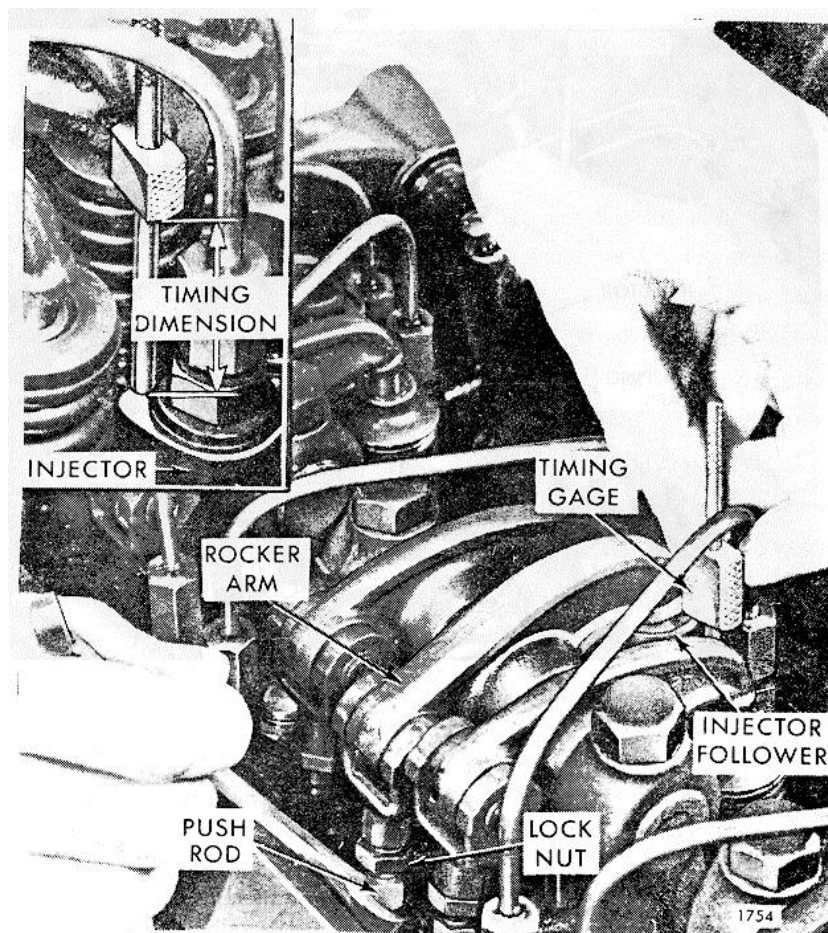

Figure 5-11. Fuel Injector Timing.
- c. Time fuel injectors as illustrated in Figure 5-11.